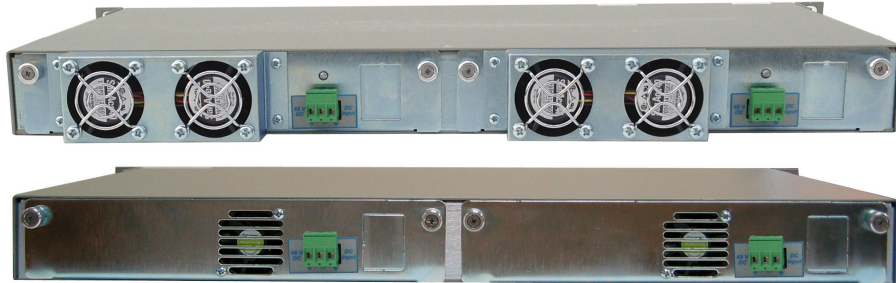

Figure 5: *iConverter* 5-Module Chassis with Installed DC Power Supplies
- Using a screwdriver, loosen the 2 thumb screws securing the power supply to the main chassis (refer to Figure 5).